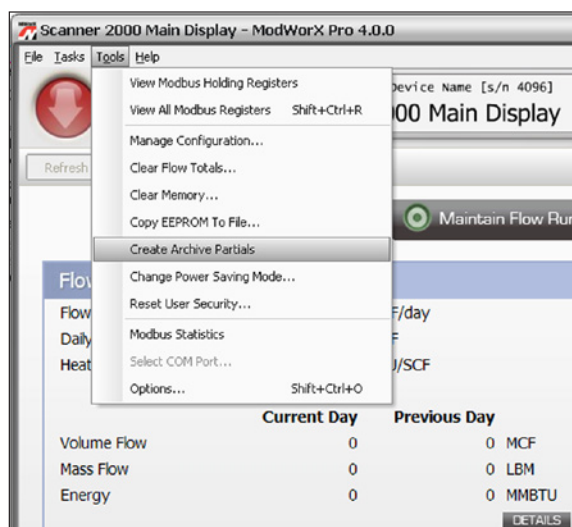

Figure A.10
1. Click **Tools>Create Archive Partials** in the task bar (Figure A.10, page A-12).